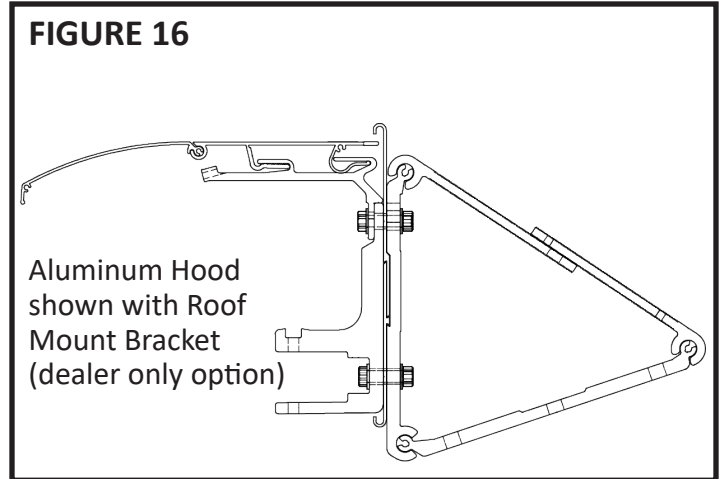

FIGURE 16
Note: The Aluminum Hood is only designed to be used with the Wall brackets (including roof mount - dealer option only - see Figure 16) and can not be used with Soffit brackets.
IF INSTALLING A HOOD COVER ON A WALL (OR ROOF - see Figure 16) MOUNTED AWNING THAT IS ALREADY INSTALLED: Make sure the Hood has sufficient clearance (Might not apply to roof mounted Awnings). The original Awning installation instructions required 8" of unobstructed space for the full width of your Awning. When installing a Hood on an existing Awning an additional 1" (3" for XL) of unobstructed space, for a total of 9" (11" for XL) of unobstructed space is required. Measure 2 1/4" up from the top of the Wall Bracket and make a mark on the wall, which indicates the space that the Hood will occupy.
- For **14' to 20' Awnings**, install four (4) **Hood Mounting Brackets**, **2 Hood Mounting Brackets** on the **Wall brackets** closest to the ends of the **Awning** and **2 Hood Mounting Brackets** on the **Wall Brackets** that are closest to the center of the **Awning**.
2. Loosen the top **Lag Bolt** on one **Wall Bracket** approximately $\frac{1}{4}$ inch. For **Roof Mount Awnings**, loosen the top **Nut and Bolt** on one **Wall Bracket** approximately $\frac{1}{4}$ inch (see **Figure 16**). Insert slot on the **Hood Bracket** over the **Wall Bracket**, inside the loosened **lag bolt** and **washer**. Tighten the **Lag Bolt**. Make sure that the **Hood Mounting Bracket** is properly seated on the **Wall Bracket** and that the **Lag Bolt** is tight. See **Figure 2**. Repeat for all remaining brackets.
4. Locate and install the **Wall Strip** on to the rear **Hood extrusion** for the full length of the **Hood**. Trim the **Wall Strip** to the length of the **Hood**. **Note:** **Wall Strip** not required for **Roof Mounted Hoods** (see **Figure 16**). See **Figure 4**.
5. Draw a vertical line on the wall that will indicate the end points of the Awning Square Bar. **Note:** For Roof Mount Awnings (see Figure 16), mark this location on the roof, if possible. See **Figure 7**.